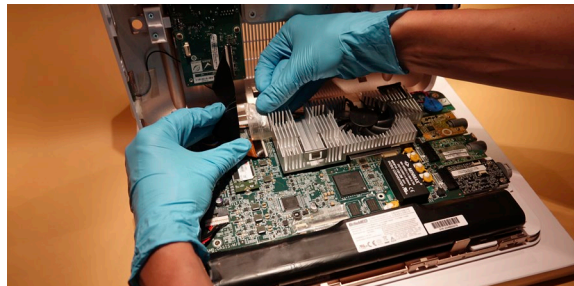

Figure 10 Open the back casing carefully and remove adhesive tape where necessary
i) Remove adhesive tape (Figure 10)